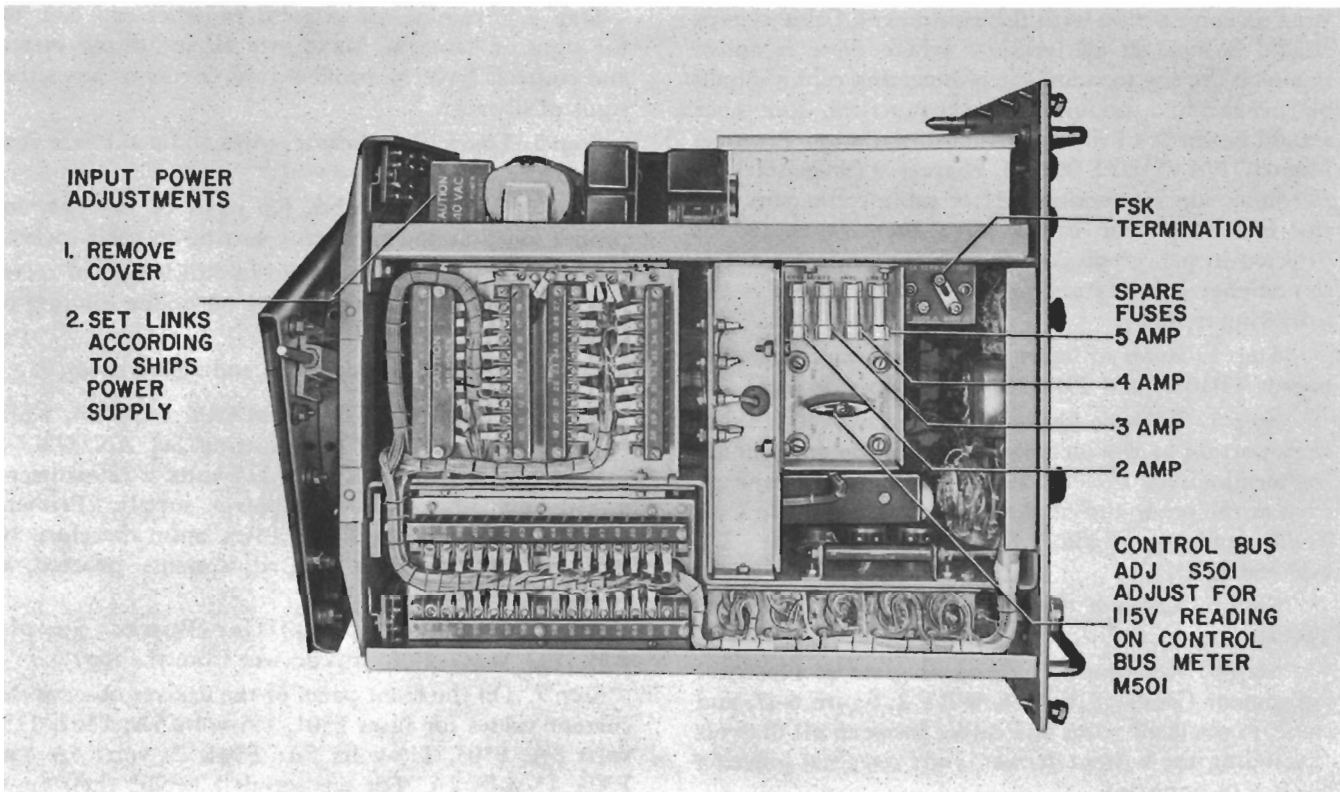

Figure 2-4. Amplifier-Power Supply AM-2122/WRT-2, Electrical Adjustments and Location of Spare Fuses
Step 5. Refer to figure 2-4 and from the fuses supplied with the equipment insert the four spare fuses according to the values stamped next to each fuse clip.
Step 7. Refer to figure 2-4, and on the righthand side of the drawer locate the cover board stamped CAUTION 440 VAC INPUT POWER ADJUSTMENTS.